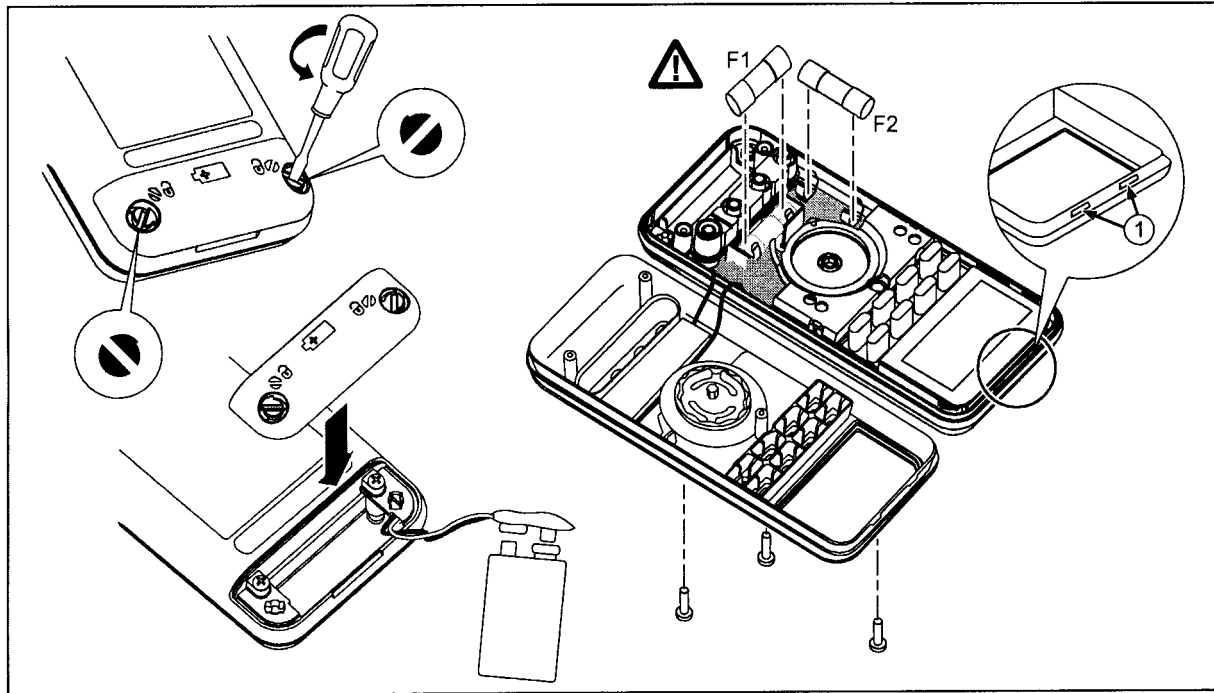

Figure 10. Battery and Fuse Replacement
Replace the battery as follows (refer to Figure 10):
- Referring to Figure 10, examine or replace the meter's fuses as follows: